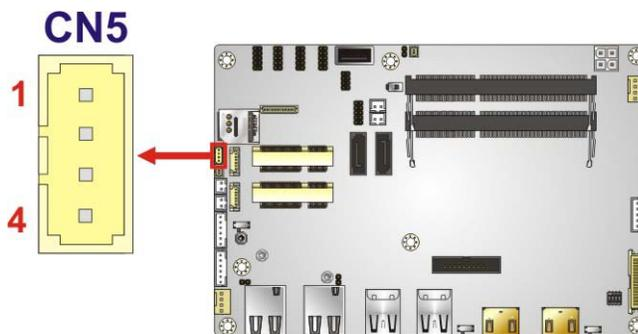

Figure 4-23: SMBus Connector Location
- CN Location: See **Figure 4-23**